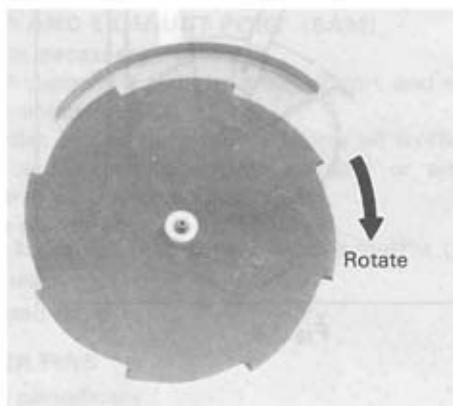

Fig. 13
4. Install the blade ensuring that it is centered correctly on the fixing plate. See Fig. 13